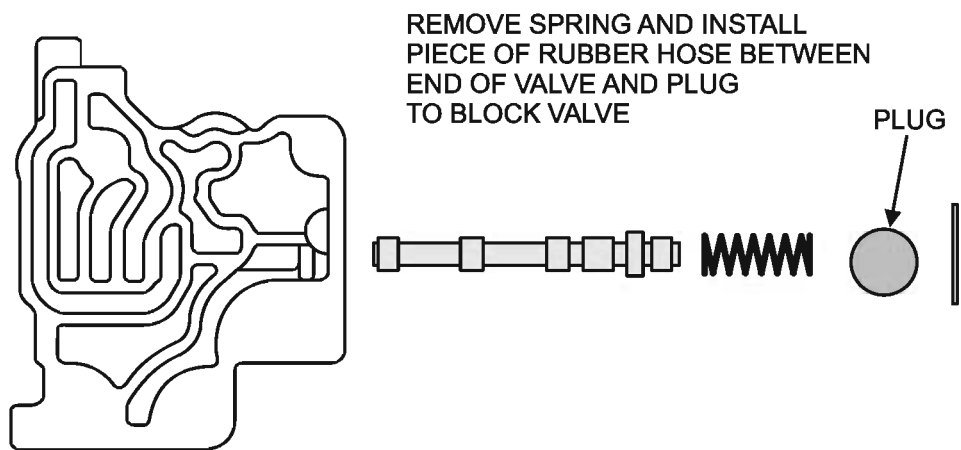

Figure 79
- 4 - Remove roll pin and bore plug and spring from auxiliary valve body, *as shown in figure 79.*
- 5 - Install piece of rubber hose in place of spring and install bore plug and pin, *see figure 79.*